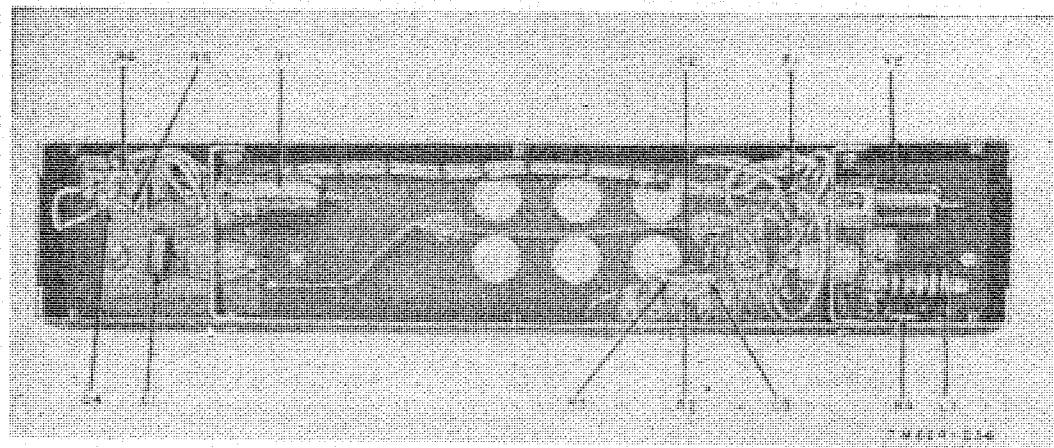

Figure 86 (Added). Oscillator-Amplifier O-59()/MRC, interior view of chassis.*
- a. The oscillator coupling amplifier (fig. 86) is a two-stage, r-f amplifier designed to supply the proper oscillator voltages from Channel A Receiver to mixer tube V3 (a type 6L7) of Channel B Receiver with a minimum of reaction on the oscillator of Channel A Receiver.